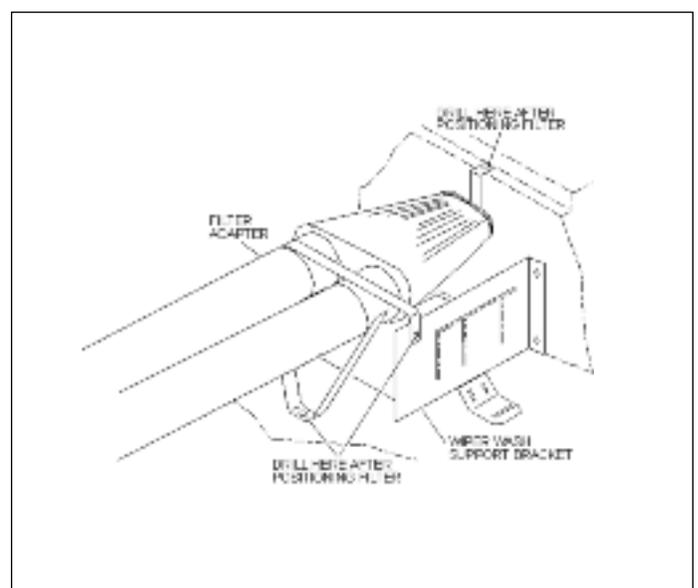

Fig. 2
**NOTE:** See fig. 2 and illustration on back page for finished kit location.
- 6) Before you mark and drill any holes, attach the intake hoses to the filter adapter and position the complete assembly (shown in fig. 2). Drill three 5/16" holes and secure with provided hardware (Make sure you have clearance for the hood hang). Cut and secure vent hose to valve cover fitting.